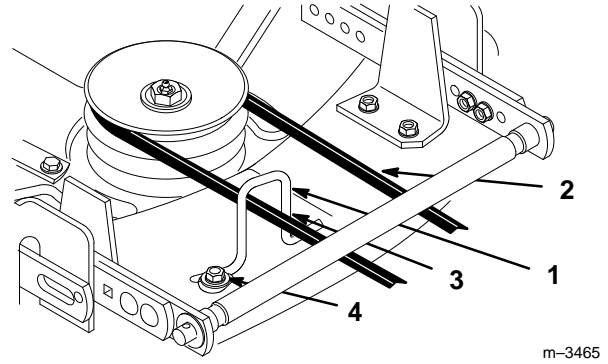

Figure 14
9. Loosen the belt guide bolt (Fig. 14).
10. Adjust the belt guide so that it just touches the belt on the inside arm of the guide (toward the center of the deck) (Fig. 14).